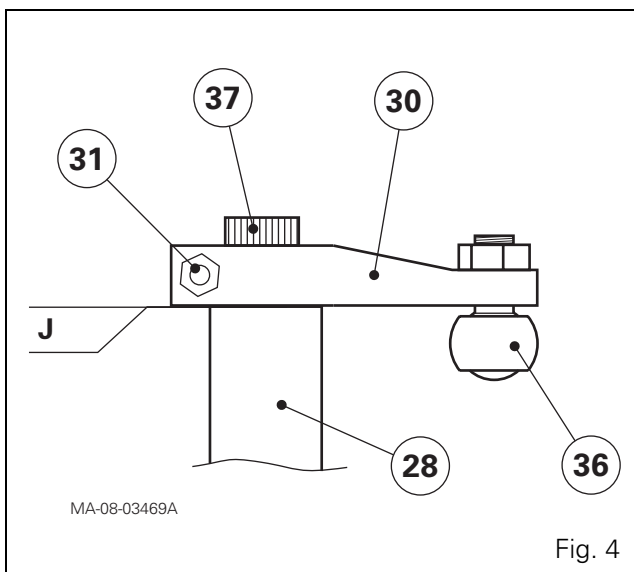

Fig. 4
19. Generously grease the thrust washer (36) and the bearing (35). Fit the washer (36) and the thrust bearing (35) to the stub axle in the order noted during step 17.
20. Fit the stub axle into the support. Fit the seal (33) and the steering rod (30). Moderately tighten the screw (31).
21. Press hard upwards against the underside of the stub axle to measure the clearance **J** (Fig. 4) between the steering rod (30) and the stub axle support (28). The clearance should not exceed 0.05 mm. If the clearance exceeds this value, loosen the screw (31), push the stub axle back upwards and retighten the screw to eliminate the excessive clearance.
22. Once the correct clearance is obtained, tighten the screw (31) to 250 - 300 Nm.
23. Refit the arm (28) in its support (26). Refit the bolts (27) and tighten to 340 450 - Nm.
26. Refit the ball joint by carrying out step 15 in reverse order. Tighten the nut of the ball joint (16) to 80 - 120 Nm.